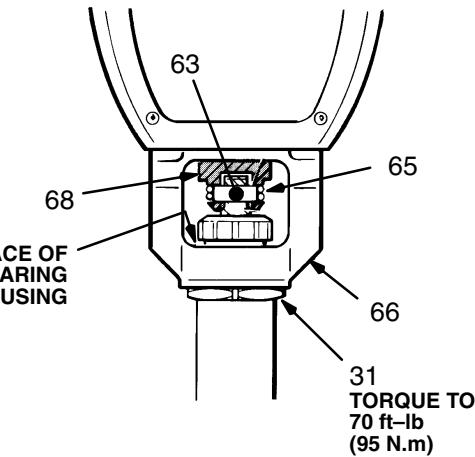

Fig 36-2
15. Screw the displacement pump about 3/4 of the way into the bearing housing (66). Hold the pin (63) up to the pin hole in the connecting rod assembly (68) and continue screwing in the pump until the pin slides easily into the hole. Back off the pump until the top threads of the pump cylinder are flush with the face of the bearing housing and the outlet nipple (67) is straight back. Push the retaining spring (65) into the groove all the way around the connecting rod. Tighten the locknut (31) very tight—about 70 ft-lb (97 N.m)—with a 2 in. open-end wrench and a light hammer. Refer to Fig 36-2.
16. Tighten the packing nut (216) just enough to stop leakage, but no tighter. Fill the wet-cup/packing nut 1/3 full with Graco TSL.
Be sure the retaining spring (65) is firmly in the groove of the connecting rod, all the way around, to prevent it from working loose due to vibration. Refer to Fig 36-2.